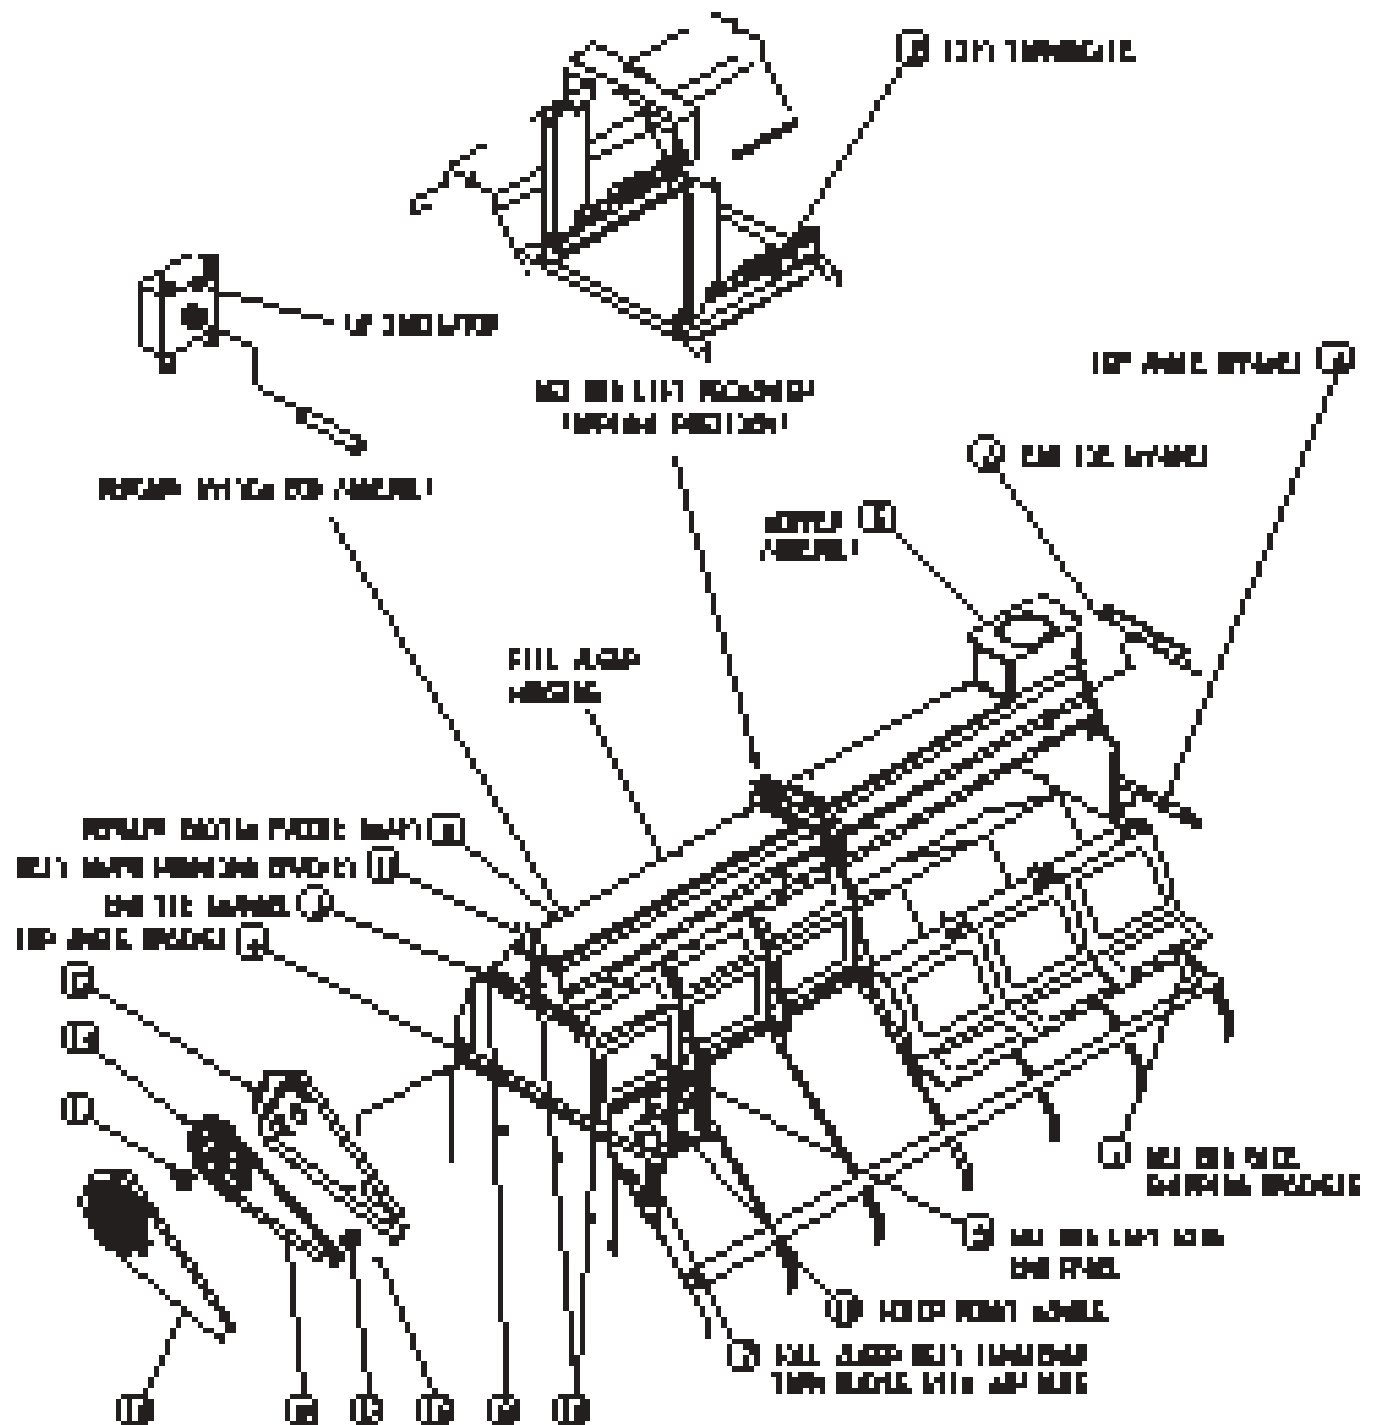

Figure 4: Parts breakdown of the wet bin and auger housing with belts and safety shield.
2. Remove the wet bin side shipping brackets. (Figure 4, no. 1).
3. Depending on the length of the dryer, the wet bin assembly will either have one or two wet bin lift mechanisms, or none on batch AB models or 1110 or smaller. On those dryers equipped with the lift mechanism, start raising the fill auger housing by uniformly taking up the lift turnbuckles. (Figure 4, no. 2) On short dryers not equipped with the lift mechanism, the fill auger housing can be manually lifted. *Note: During the initial stages of raising the fill auger housing, make sure that all four corners pick up uniformly or damage can occur to the top auger. Free by hand assist or prying, if required.*
4. Once the fill auger housing and wet bin are in an upright position, attach the end tie channel and the end top angle, (Figure 4, no. 3 and 4) using 5/16" x 3/4" bolts and nuts with serrated flange supplied in the wet bin hardware package. *Note: These bolts install from inside the wet bin therefore they must be in place prior to folding up the wet bin sides.*
5. Install bolts without tightening, to the wet bin left side end panel, (Figure 4, no. 5) adjacent to the fill auger motor. *Note: All the wet bin side panels bolt into place using 5/16" x 3/4" bolts and nuts with serrated flange for all round bolt holes and #14 x 3/4" self tapping screws for all slotted bolt holes.*
7. Repeat steps 5 and 6 for the opposite side of the wet bin. *Note: Before folding up the front end panel install 3/8" x 4" hex head bolt into the belt guard body mounting hole (Figure 4, no. 9).*
9. Install hopper assembly on top of the fill auger housing, (Figure 4, no. 6) using #14 x 3/4" self tapping screws through the six holes located inside the hopper and three 5/16" x 3/4" bolts and nuts with serrated flange located outside the hopper.
10. Loosen the fill auger motor from its shipping position and attach the fill auger belt tensioner turnbuckle to the motor mount as shown (Figure 4, no. 7).
11. Loosen the mercury switch box assembly from its shipping position (attached to the upper junction box on the top left side of the dryer, except on front fill models where it is positioned in the rear of the dryer). Attach the switch box to the mercury switch paddle shaft, (Figure 4, no. 8) by tightening the allen screw in the switch box attachment collar. *Note: Make sure the top of the switch box is mounted in a level, horizontal position (top of the box is labeled top).*
After the top auger is lifted into place and the wet bin assembled, attach the belt guard mounting bracket (Figure 4, no. 11) to the top auger.
Using the 3/8" x 4" hex head bolts with the 3/8" hex nuts and lockwashers, bolt in place the belt guard body (Figure 4, no. 12) using the three holes shown (Figure 4, no. 9 and 10).
Install small pulley (Figure 4, no. 13) on top auger motor with keyway (Figure 4, no. 16) and large pulley (Figure 4, no. 14) on top auger with bushing (Figure 4, no. 17). Check for proper alignment of pulleys when installing the belts (Figure 4, no. 15). Adjust belt tensioner (Figure 4, no. 7) making sure there is sufficient clearance between belts and the belt guard body. Tighten locking nuts on the belt tensioner once belts are tightened. If adjustment is necessary, loosen the three mounting bolts and move the belt guard body to a better position.
Install the cover (Figure 4, no. 18) to the belt guard body using the attached clips.